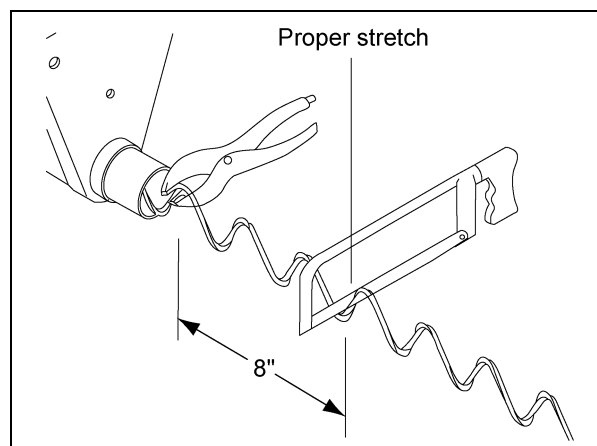

Figure 7CM
10. Mark the auger at the point which allows the proper stretch. (See Figure 7CM.)